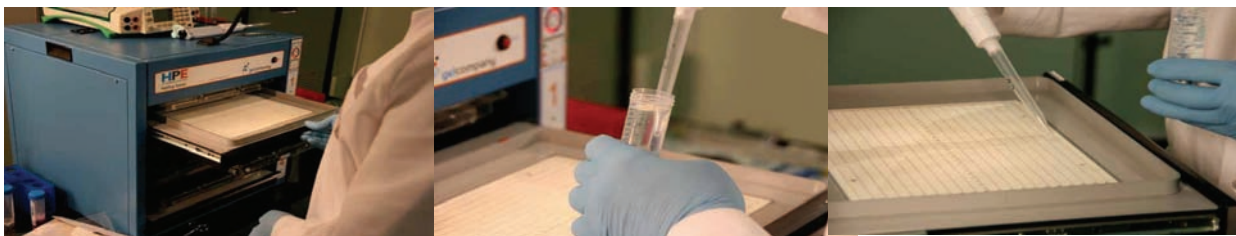

Fig. 5.3: Application of the cooling fluid
4. Apply at least 4mL of cooling contact fluid onto the center of the cooling plate (fig. 5.3)